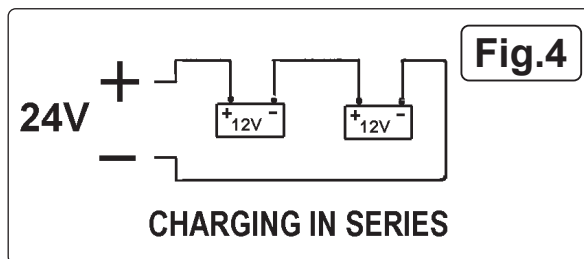

Fig.4
- 4.6.1. Simultaneous multiple charging should be carried out in series, since this enables monitoring of the current circulating in each battery. See fig.4 below.